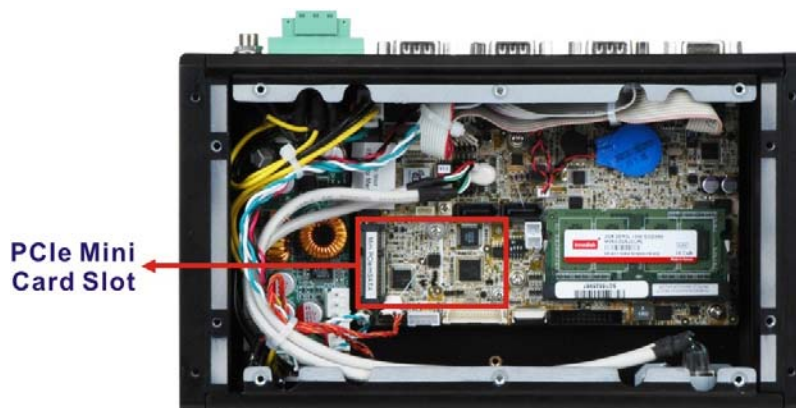

Figure 3-17: PCIe Mini Slot Location
Step 3: Locate the PCIe Mini slot (Figure 3-17).